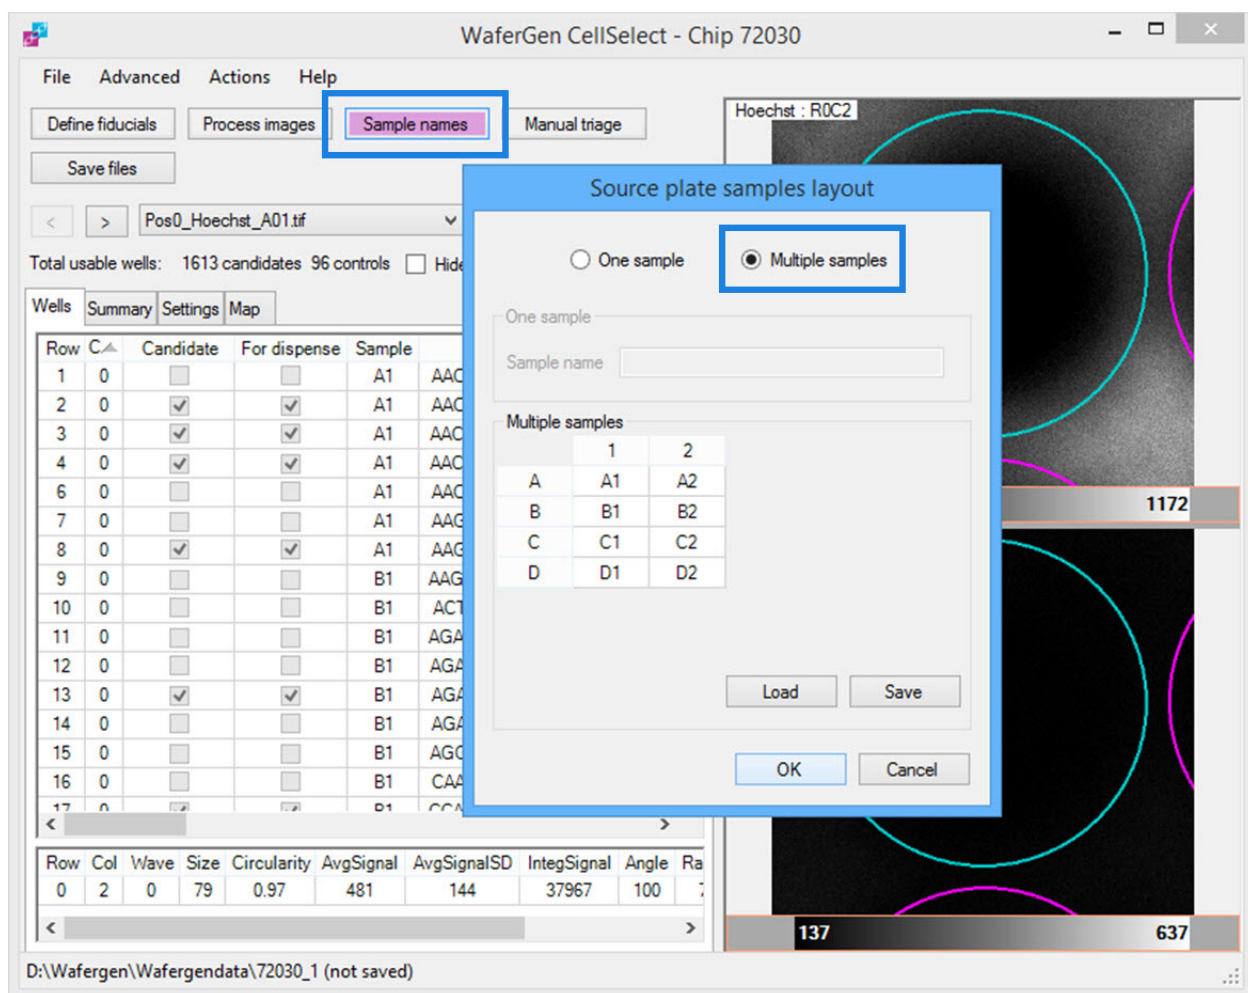

Figure 13. Inputting multiple sample names and automatically identifying control- and fiducial-containing wells.
- The **Multiple samples** option changes the default name (“Sample”) to grid names from the source plate—or you may edit the grid name (see Figure 13, below).